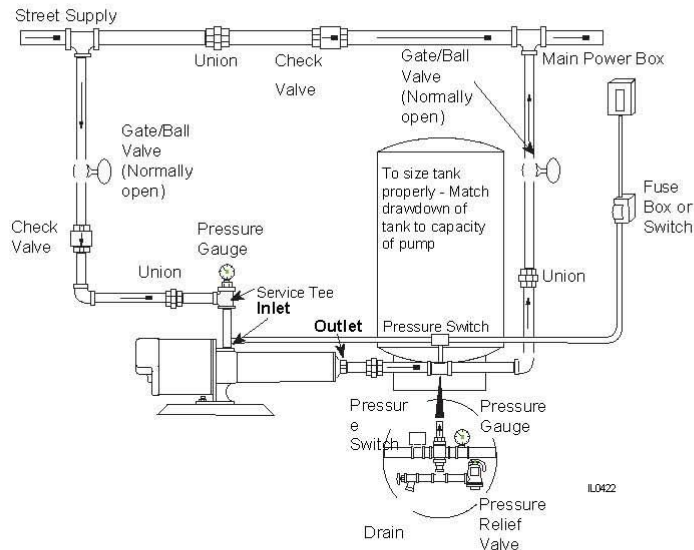

Figure 6
1. Refer to Figures 6, 7, and 8 for typical installations.
1. On pressure boost systems, locate the pump so that there will always be a positive supply of water to the pump (See Figures 6, 7 and 8).
3. Install a check valve as shown in Figure 6. Be sure check valve flow arrows point in the direction of water flow.
5. A pressure gauge installed in the inlet pipe close to the inlet port, (See Figure 6) will show if enough water is being supplied to the pump. See Operation Section - Priming, Pressure Boost Installations.
Priming is automatic when pump is connected to a pressure source such as a hydrant or city main (See Figures 6, 7 & 8).
- If you installed a pressure gauge at the pump inlet, a reading of 2 psi minimum should show whenever the pump is in operation (See Figures 6, 7 & 8).